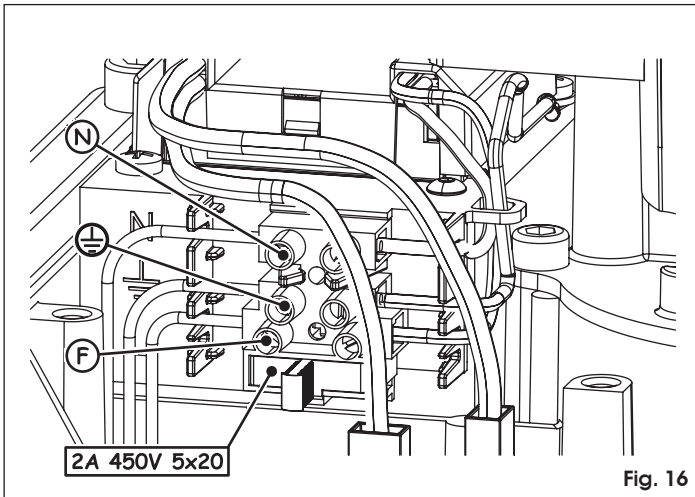

Fig. 16
2. Connect the power cable, as shown in Fig. 16. The earthing wire must also be connected. Make sure that the power cable wires are correctly fitted in the 'comb' which restrains them Fig. 16.